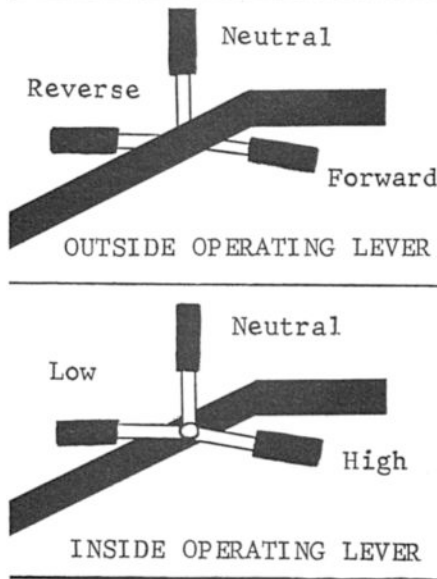

Figure 2
**REPAIRING FLAT TIRE.** Engage both Operating Levers (See Figure 2) to prevent the Tractor from moving. Be sure the Tube is deflated fully by removing its Valve Core.
right Tractor Handle. See Figure 2 for Lever positions.